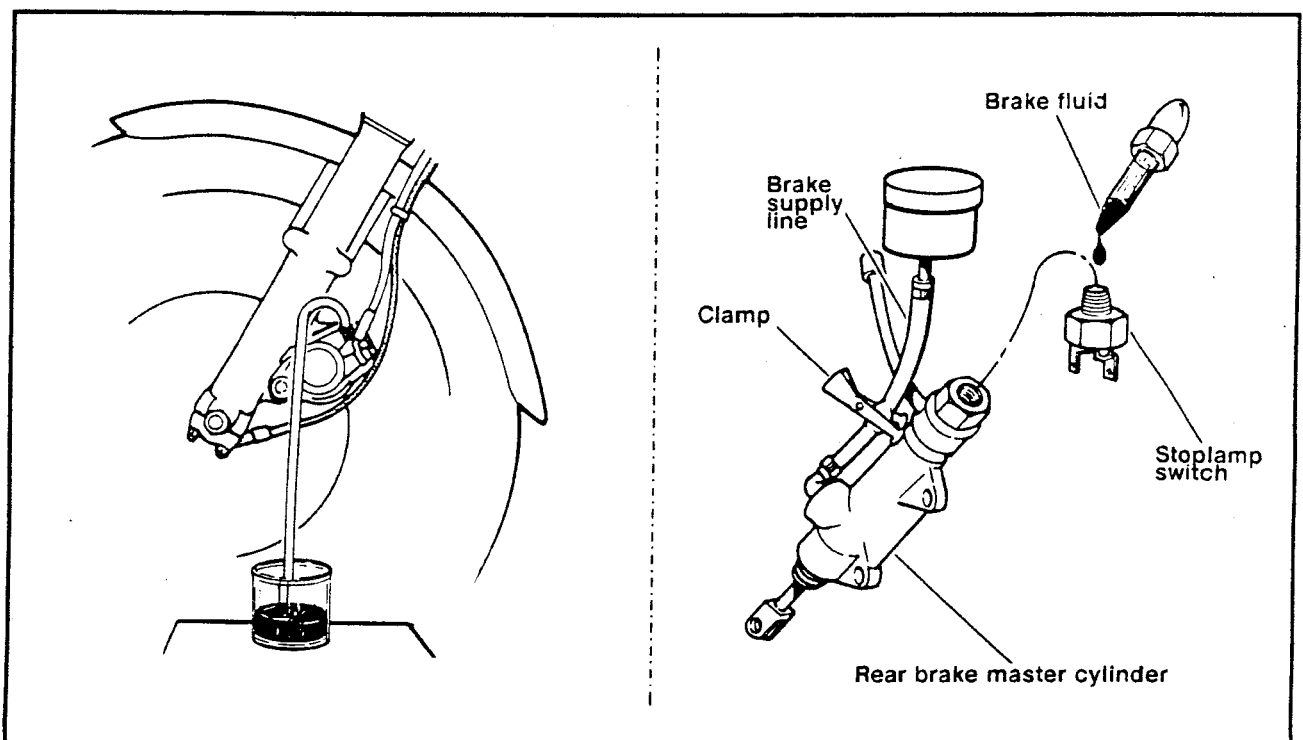

Figure 5-79. Bleeding Brakes (Typical)
1. See Figure 5-79. Slip a length of appropriate size clear plastic tubing over wheel cylinder bleeder valve with other end in a clean container. Turn handlebars so that bleeder valve is nearly vertical.
- See Figure 5-79. Clamp supply line.